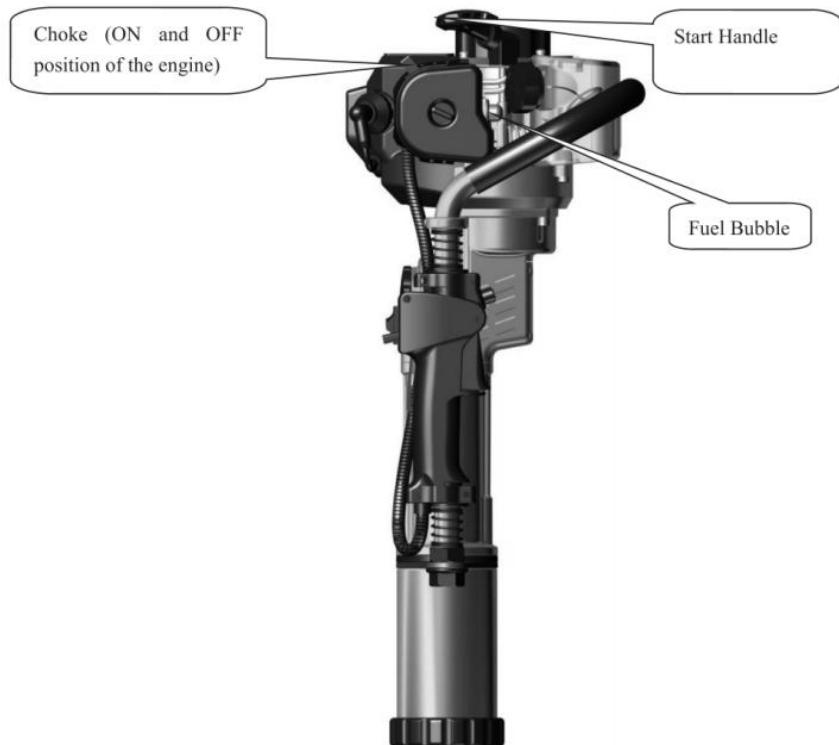

Fig 4
5.1 Before starting the new machine, press the transparent and semi-circle fuel bubble repeatedly(Fig.4)until carburetor is filled with fuel.(If the engine is cool,close the air door.Open air door after starting.)
5.2 Set the machine upright according to Fig.4.Hold the upper part of the handle tightly with one hand while the other pulls the pulling handle of starter for over 50cm quickly.Do not let the pulling handle go back freely in repeated pulling but hold it tightly to avoid injury resulting from quick resilience.